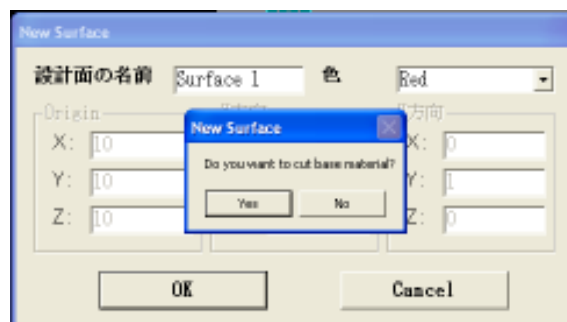

Figure 2-10. Confirmation of the new surface generated
7. Click the “Design Surface” icon, and click on “Create” button. A dialog box of Figure 2-10 will appear listing all of the origin point to confirm the new surface. Give a name of the design surface, and select the color for machining features that will be generated on the new surface (red is a default). Click OK then a small message window will appear to ask if user want to display the cut base material. Select “YES”.